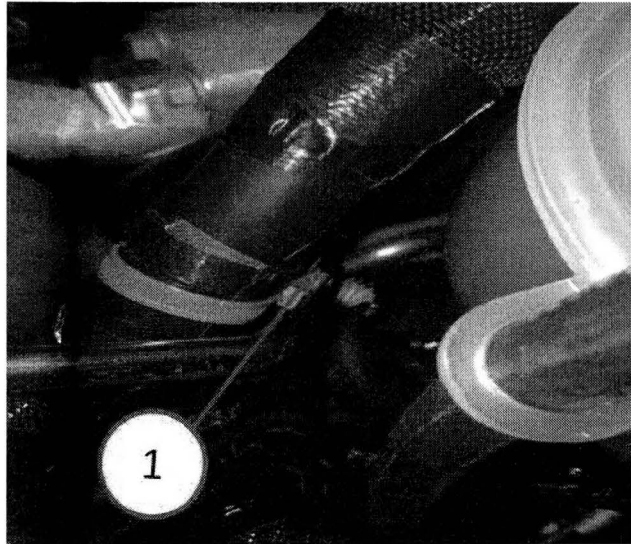

Fig. 7 Christmas Tree Overflow Bottle
6. Remove Christmas tree from the overflow bottle using the forked pry bar(Fig. 7).